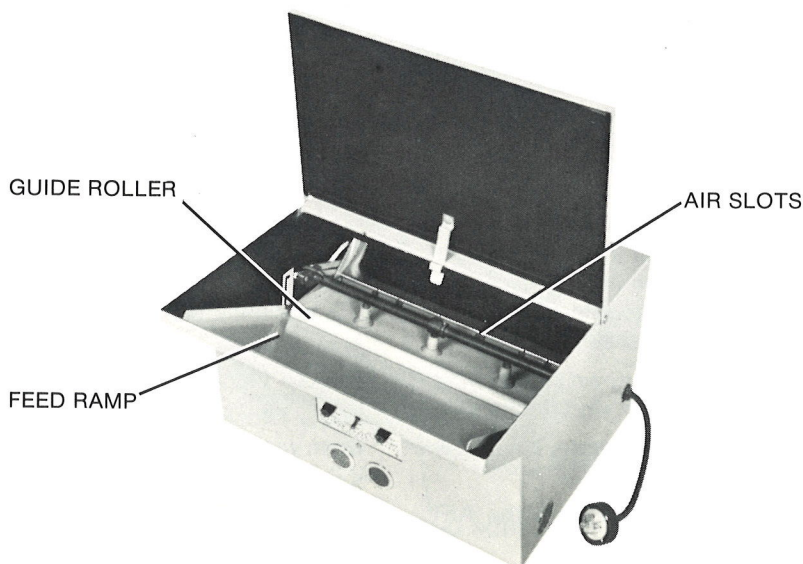

FIGURE 4
- The suction cups should come down so that they touch the FEED RAMP, figure 4, simultaneously.
- A flow of air should be coming from the AIR SLOTS, figure 4.
**3-22.** Lower the GUIDE ROLLER, figure 4, onto the stacked film.